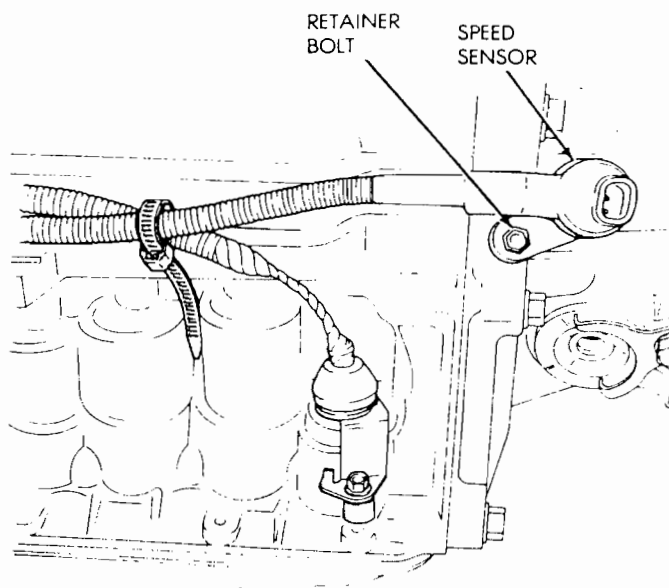

Fig. 41 Speed Sensor Removal/Installation
- (1) Disconnect sensor wire harness connector.
- (2) Remove sensor retainer bolt and remove sensor (Fig. 41).
- (3) Remove and discard speed sensor O-ring.
- (4) Install new O-ring on speed sensor and install sensor in transmission case.
- (5) Install sensor bracket and retainer bolt. Tighten bolt to 7.4 N·m (65 in-lbs) torque.
- (6) Connect sensor wire harness connector.